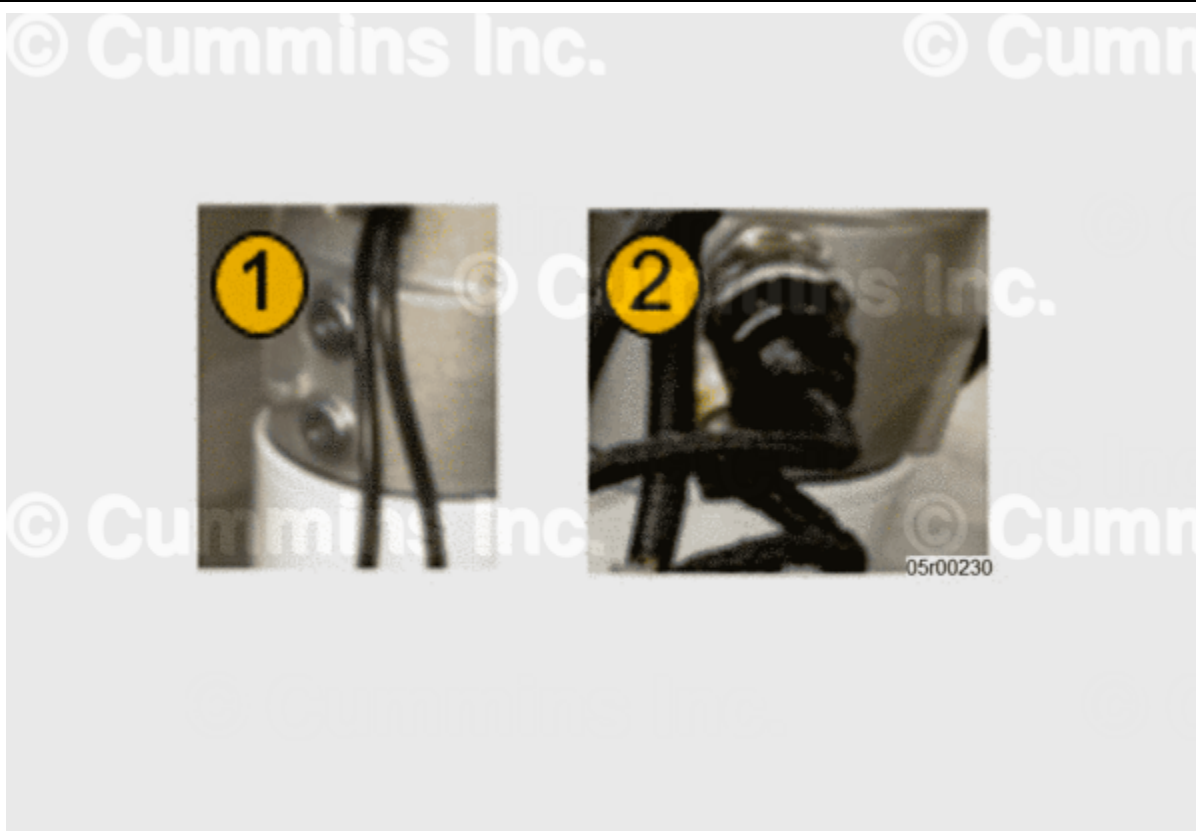

Figure 5, Threaded Plugs and Temperature and Pressure Sensors.
9. Install threaded plugs (Figure 5, Item 1) into fuel filter head assembly if the unit does not have temperature and pressure sensors installed from the previous setup. If temperature and pressure sensors (Figure 5, Item 2) are present, install sensor in the appropriate area.